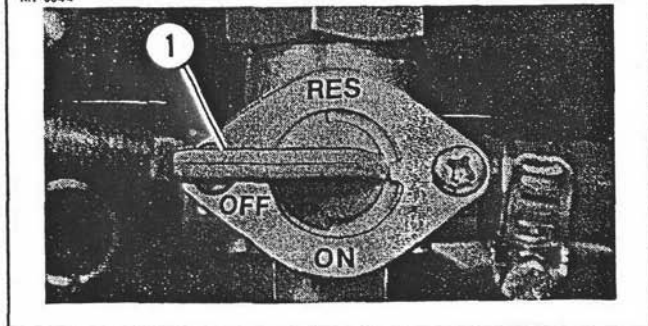

Figure 5-5. Fuel Control Valve - OFF Position
1. See Figure 5-5. Turn fuel control valve (1) to OFF position.
5. See Figure 5-5. Set fuel control valve (1) to OFF position.